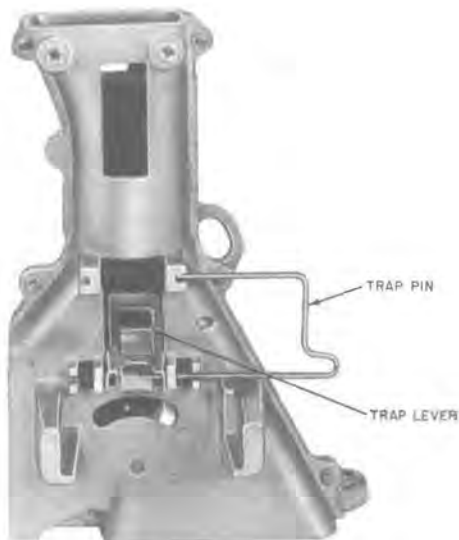

Fig. 45—Placing Trap-Lever Pin on Hopper
- (1) Partially insert trap pin into hole in hopper.
- (2) Place trap-lever on trap pin (Fig. 45).